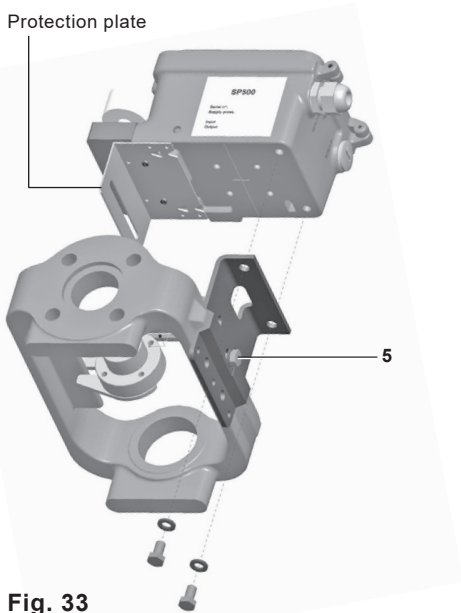
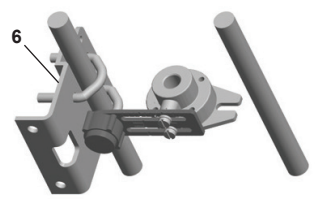

Fig. 33
Fig. 36
- 5.2.6** Attach the positioner mounting plate to the positioner as shown in Figures 33 and 34.
- 5.2.8** When the SP500 positioner and mounting plate assembly is correctly positioned, tighten the hexagon headed screw (**5**) on the yoke mounted actuator (Fig. 33) to 10 - 12 N m and tighten the 'U'bolt nuts (**6**) on the pillar mounted actuators (Figure 36) to 10 - 12 N m.